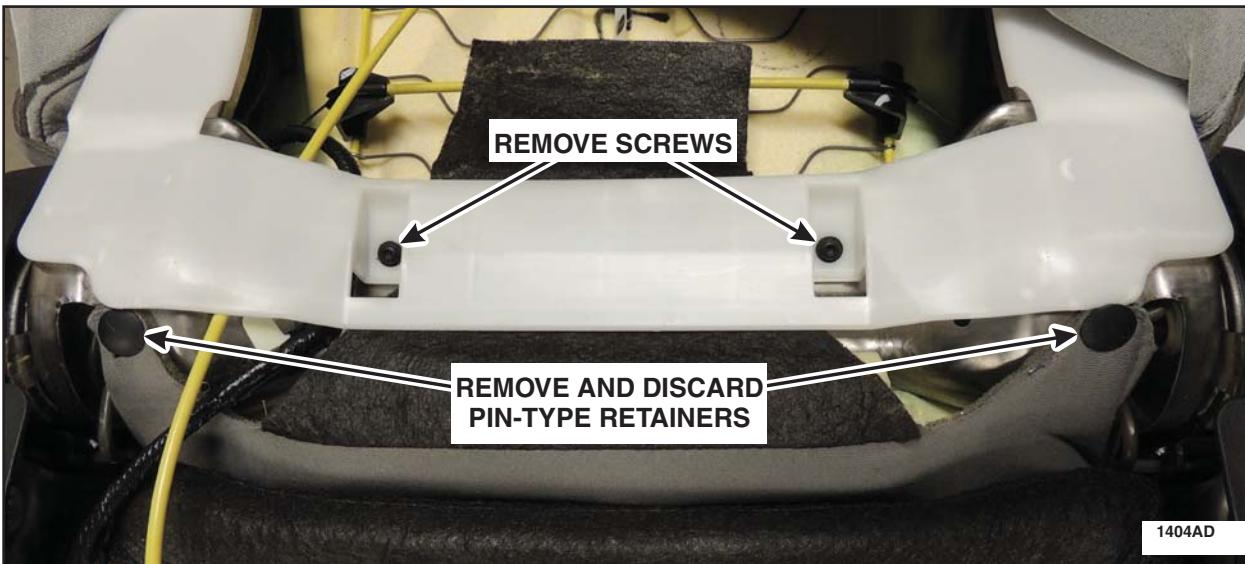

FIGURE 2
16. Attach the backrest cover straps to the seat bottom. See Figure 2.
5. Remove the two hard back panel screws and the two backrest cover pin-type retainers. Discard the pin-type retainers. See Figure 2.